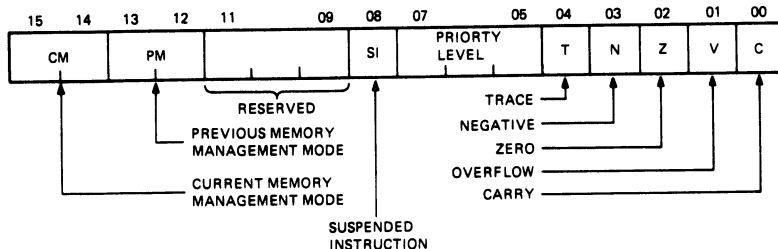

Figure 13-5 Processor Status Word (PS)
**Processor Status Word (PS)**
The processor status word (PS) is in the data chip and contains information on the current processor status. On the LSI-11/23, the high byte contains additional information not required by the LSI-11, LSI-11/2, and SBC-11/21. As Figure 13-5 shows, this includes: the condition codes describing the arithmetic or logical results of the last instruction, a trace bit that forces a trap at the end of instruction execution (used during program debug), the current processor priori-
ty, an indicator of the previous memory management mode, and an indicator of the current memory management mode. Figure 13-5 illustrates the processor status word.